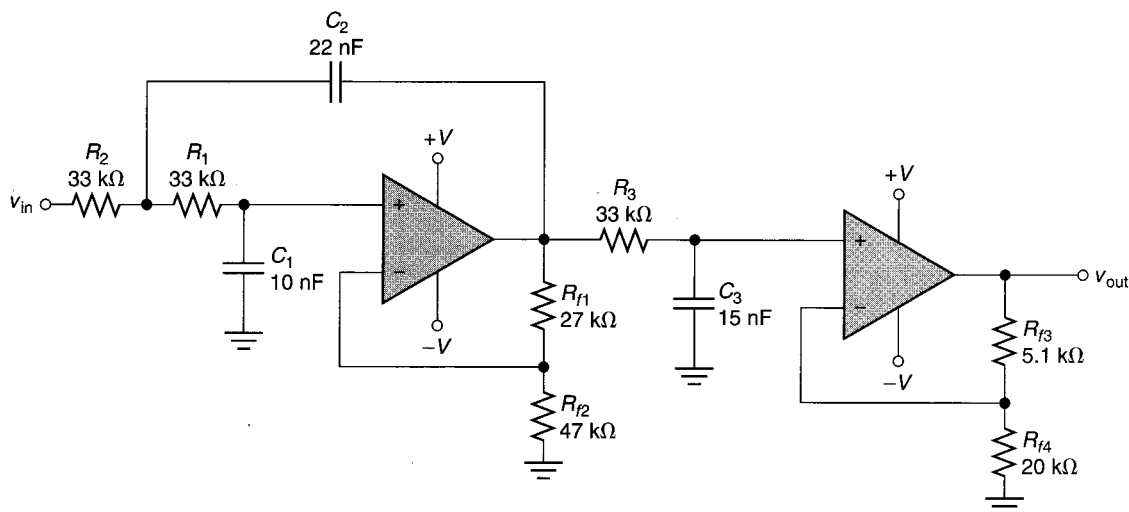

FIGURE 17.46
11. Calculate the bandwidth and closed-loop voltage gain of the filter in Figure 17.46.